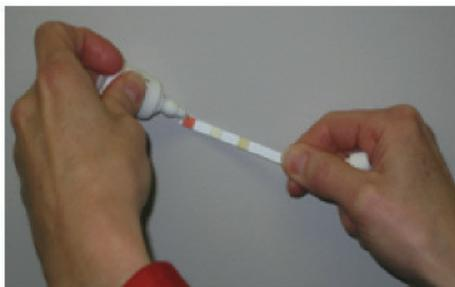

Fig. 2
- Immediately use the dropper bottle to add one drop of dilute acid reagent to the (end) molybdate pad (Fig. 2).